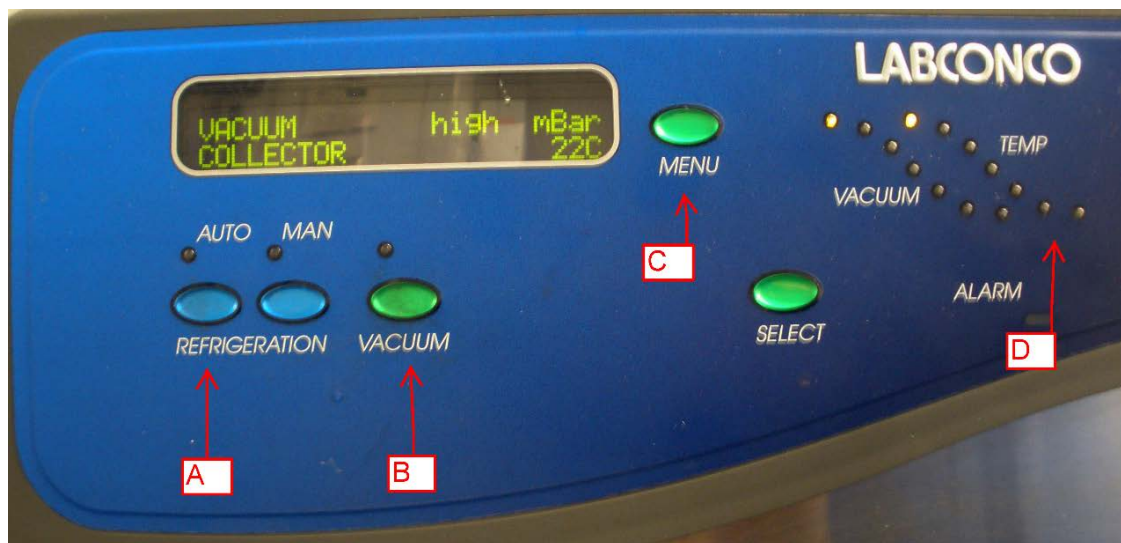

Figure 6. Freeze dryer control panel.
4. Set the freeze dryer to resemble the settings shown in Figure 6 and flip the “On” switch located on the right side of the machine.